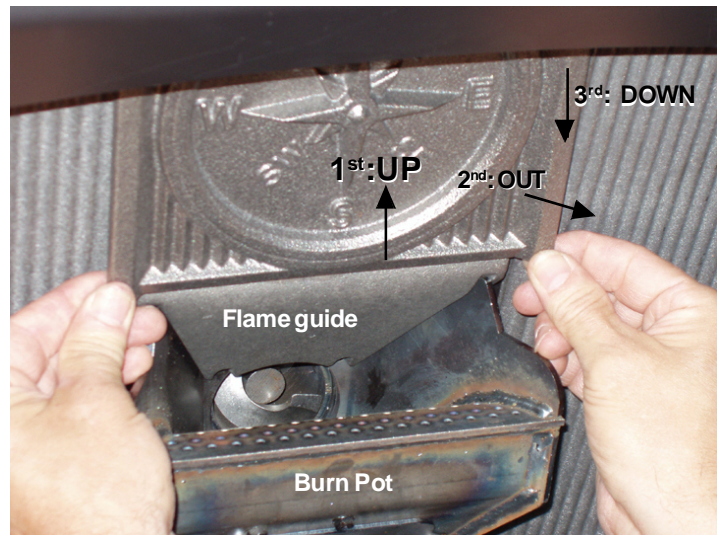

Fig. 14
4. Remove the (4) internal pieces of cast iron. See Fig. 14 and 15.